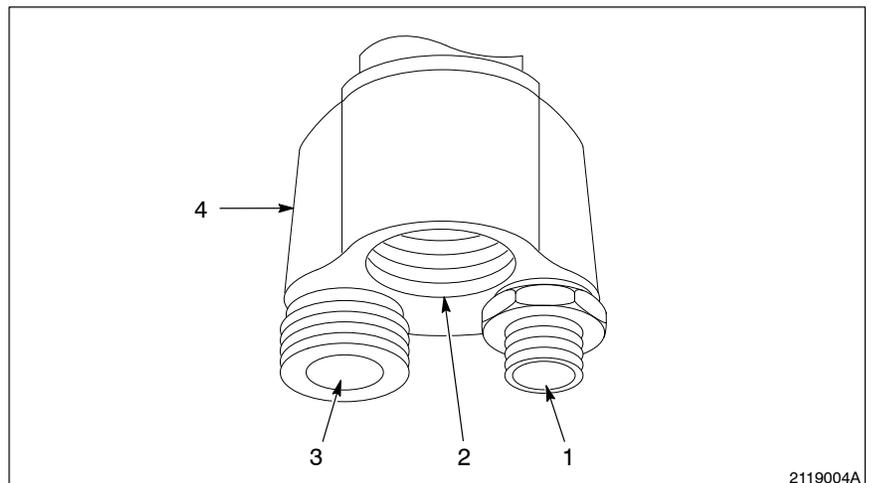

Fig. 3-1 Cable and Hose Connections
2. See Figure 3-1. Slowly push the cable into the electrostatic cable port (2) on the cable adapter (4). Continue to push the cable into the gun until it reaches the stop.
**WARNING:** Using fittings other than those recommended can void the AN-8 Plus gun's Factory Mutual (FM) certification and create a spark or ignition hazard.
3. See Figure 3-1. Install the other end of the air hose at the 1/4-in. NPS male fitting to the air inlet port (1) on the cable adapter (4).
6. See Figure 3-1. Install a fluid hose with a  $\frac{3}{8}$ -in. NPS female fitting between the fluid inlet port (3) on the cable adapter and the fluid supply.